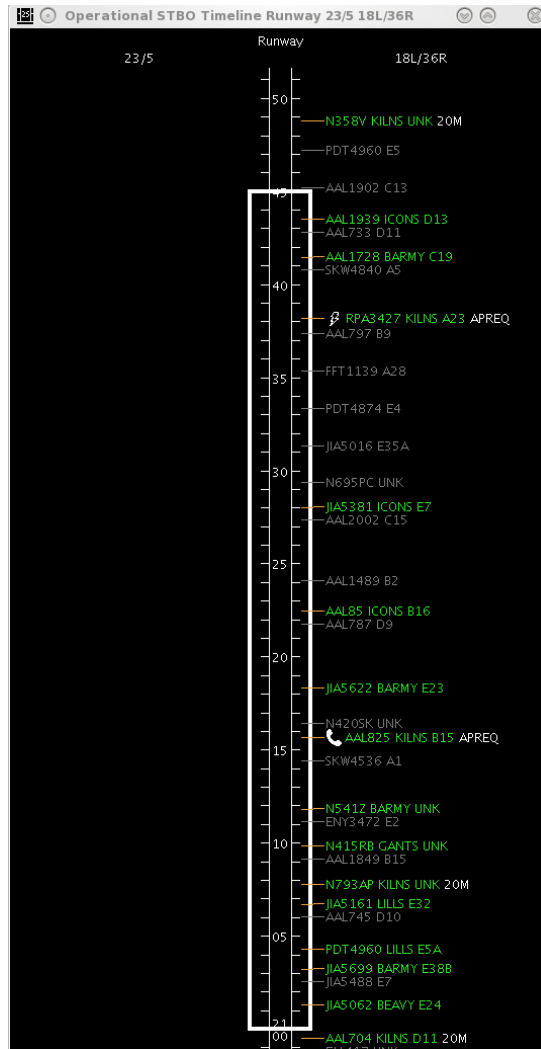

Figure 24. Flight Plan Demand depicted on Timeline.
**Step 4:** Click “Apply”. Flight plan demand will be visible on the Timeline display (Figure 24). The Timeline should have a hollowed white border where time was set.